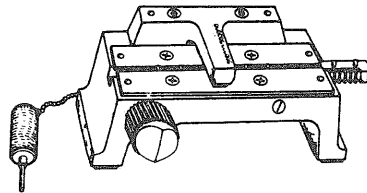

Figure 4-7 Tape Punch\*
- 4 Adjust the tape punch for 6 or 8 lines per inch (lpi), whichever is required. The line spacing has wide notches for 6 lpi and narrow notches for 8 lpi. Use the notches seen from the control knob side of the paper punch (see Figure 4-7).